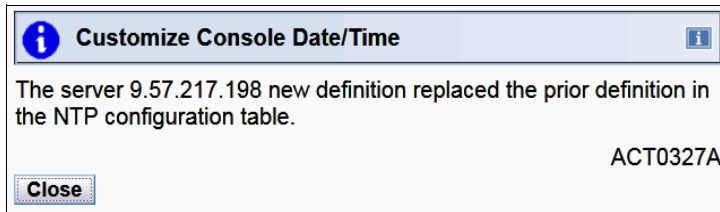

Figure 8-20 Completed message for adding NTP Server with Authentication
11. The next window (see Figure 8-20) indicates that the modification is completed. Click **Close**.